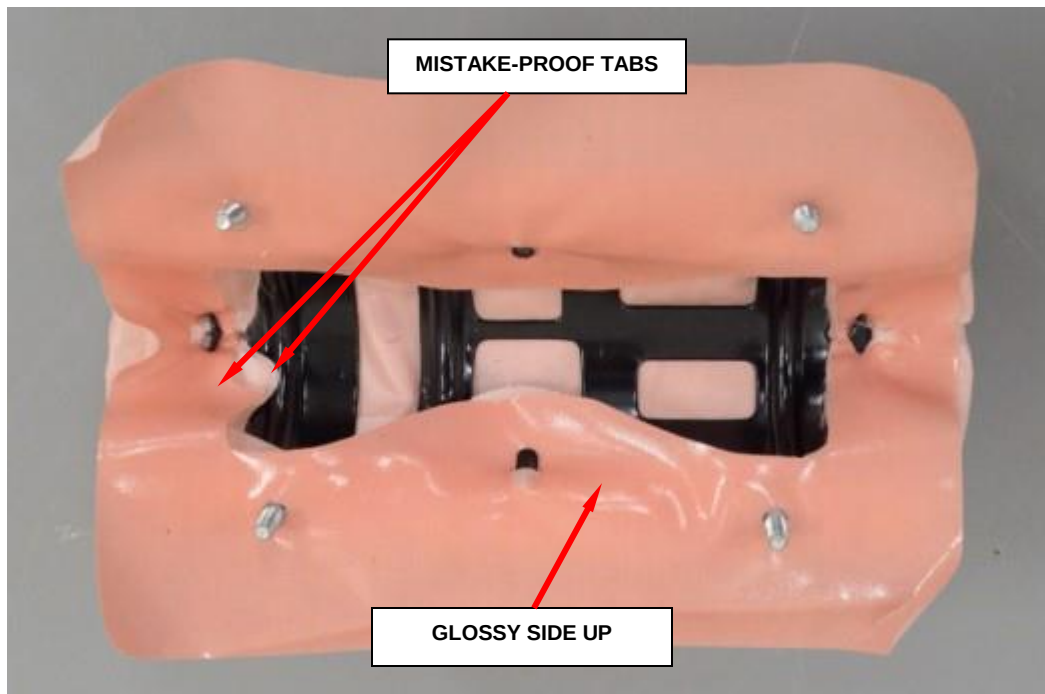

Figure 119 – Fabric Gasket to Cushion (Glossy Side Up)
- b. Disengage the wire harness jumper from the housing clips in two places (Figure 119).